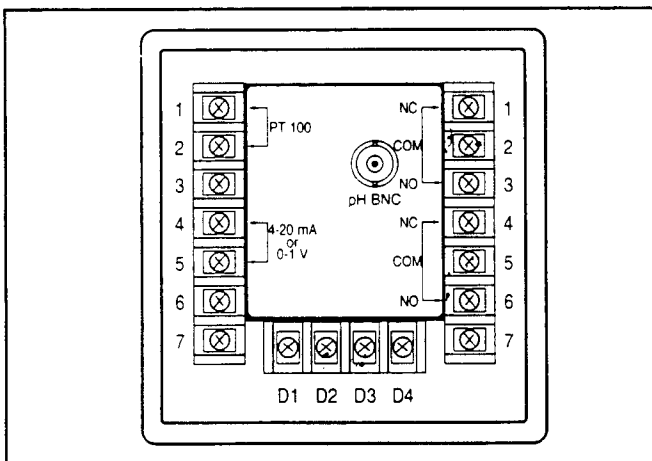

Figure 2-3. Rear Panel Connections
Connect ac power to the proper terminals (refer to Fig. 2-3). "D3" is hot, "D2" is neutral, and "D1" is ground. For 220 Vac operation, "D4" is hot, "D2" is neutral, and "D1" is ground.
2. If using automatic temperature compensation (ATC) connect the 100 ohm Pt RTD leads of the temperature probe to Terminals 1 and 2 (no polarity -see Figure 2-3).
1. Connect the combination pH electrode and temperature compensation probe (if using ATC) to the meter (refer to Fig. 2-3).